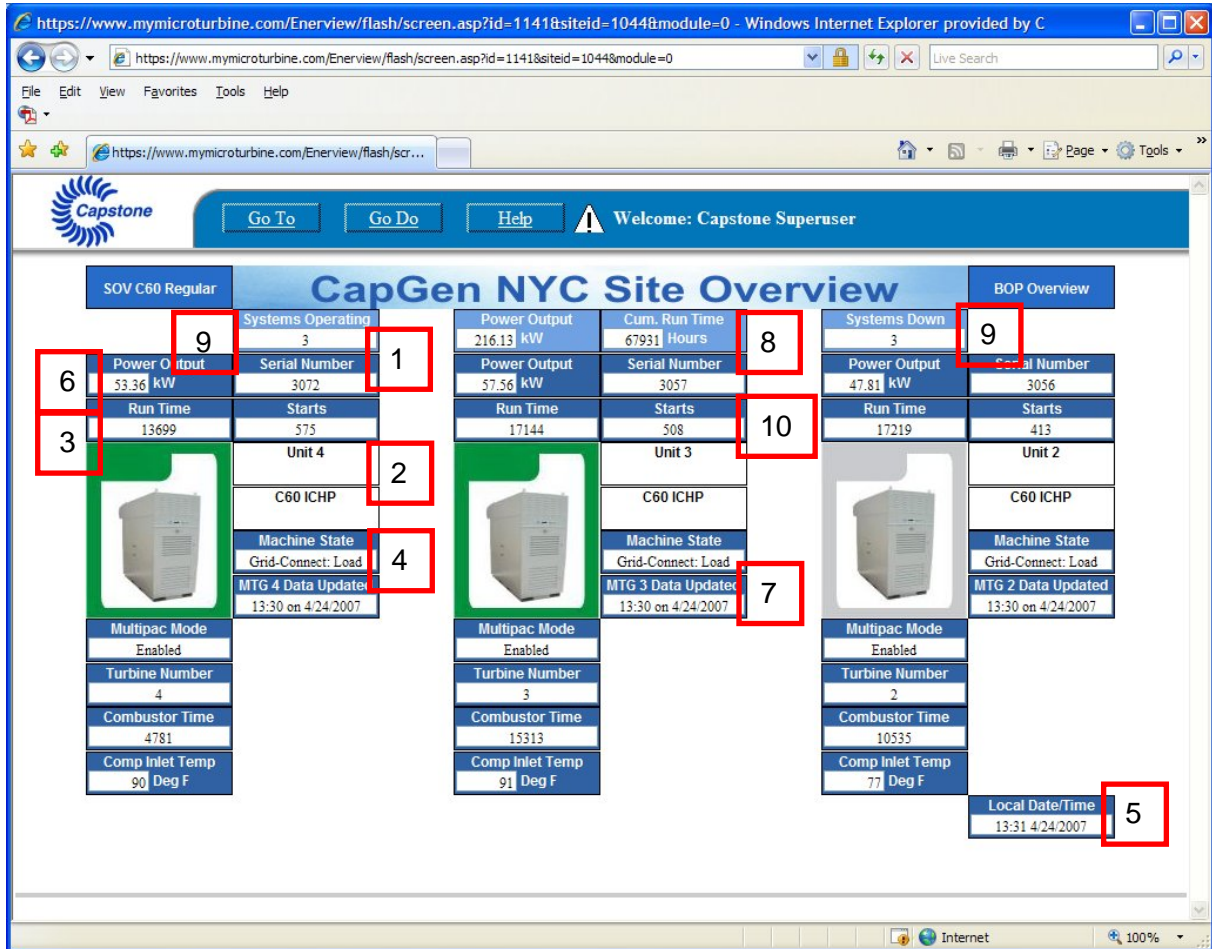

Figure 16. User Status Screen Example
The User Status screen is shown on Figure 16. The User Status screen shows up to three (3) MicroTurbines in a single cluster. The following items are available for viewing, as shown in Table 2.